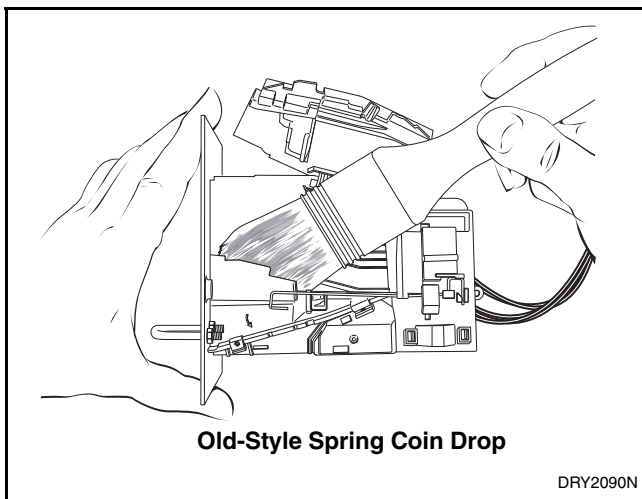
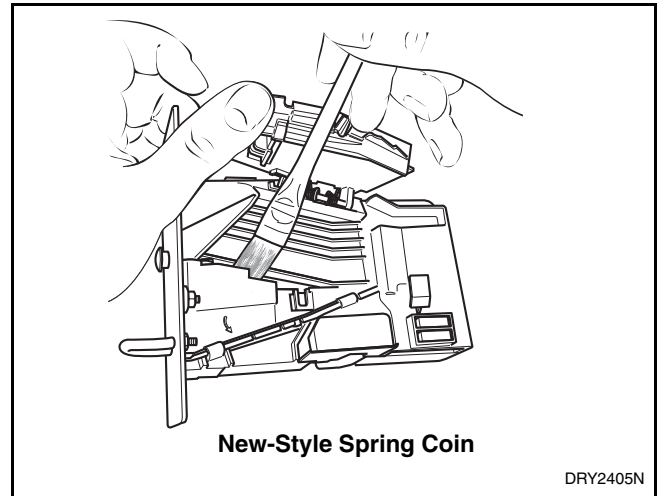

Figure 89
Figure 90
- d. Clean the coin path with a soft brush and wipe exposed surfaces with an alcohol moistened cloth. Refer to Refer to *Figure 89* or Refer to *Figure 90*.